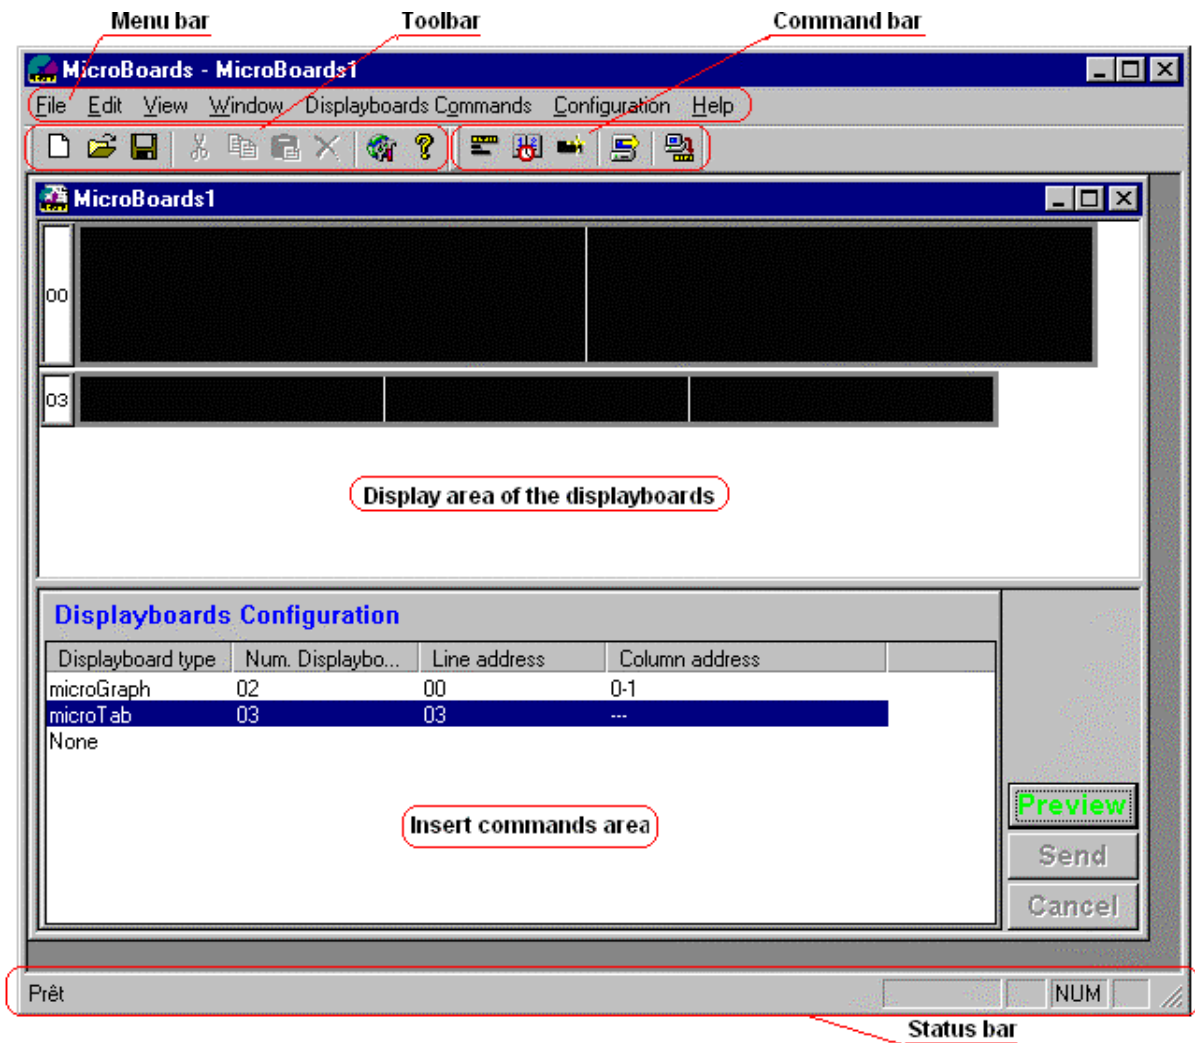

Figure 1 - Program layout
**First of all start the MicroBoards program.** The program will appear as in Figure 1.